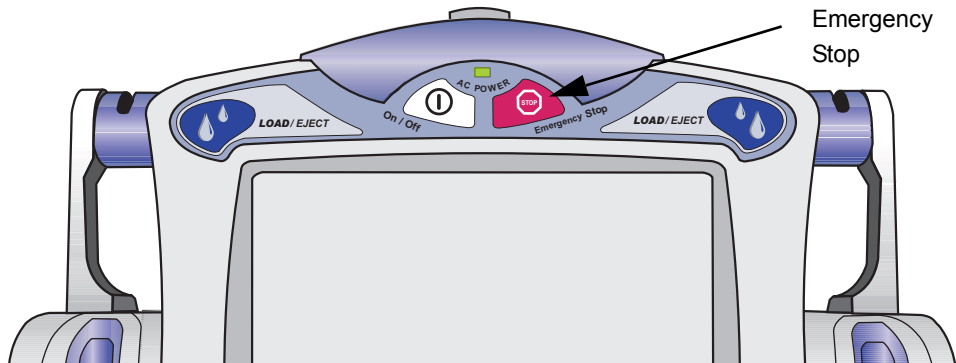

Figure 30: Emergency Stop Button
1. Locate the **Emergency Stop** button on the front of the infuser. See Figure 30: "Emergency Stop Button" on page 47.